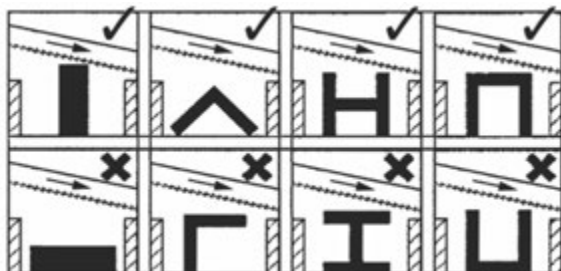

Figure 9-1: Clamping Positions
- 3) Position workpiece in vise and tighten vise. Workpiece should be fitted directly between the jaws without adding other objects. When workpiece is profiled section, flat piece or special shape, refer to examples in Figure 9-1 for proper clamping positions. The top row shows acceptable clamping positions, the bottom row show *unacceptable* positions.